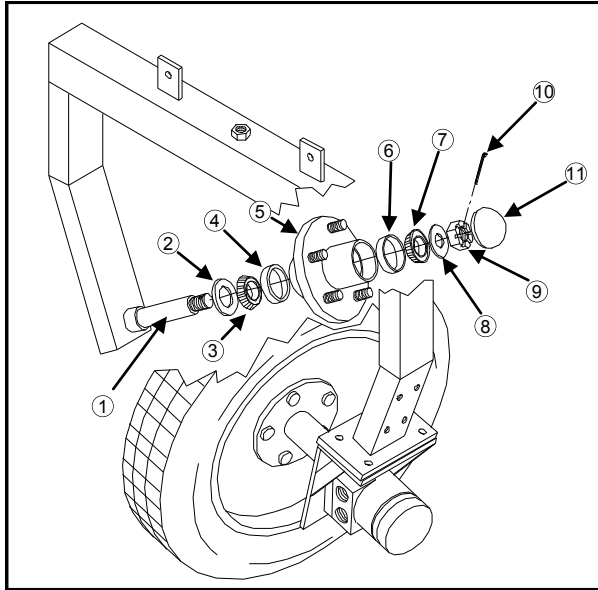

FIG 7.39
1. Remove wheel assembly from hub and disassemble as shown in figure 7.39. Bearing cups may remain in hub.